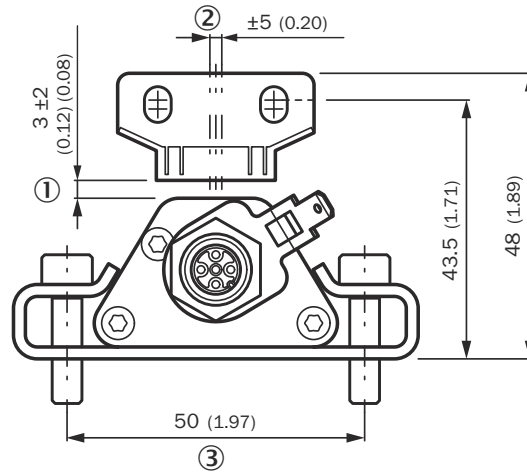
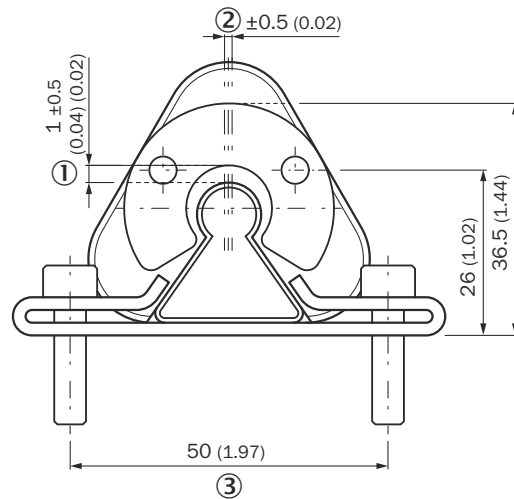
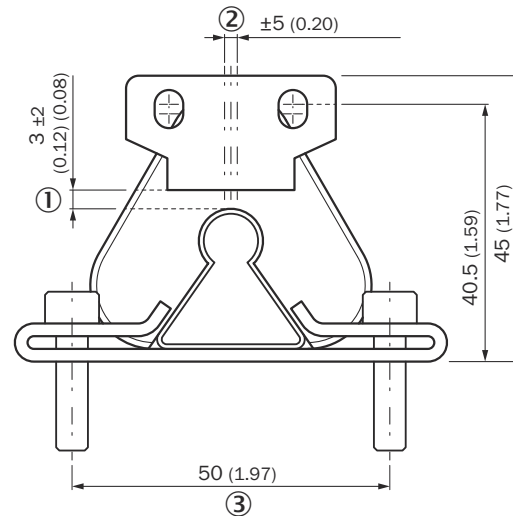

Figure 19: Dimensions and distances for MAG-B-180-xx position magnet on DAX® Low Profile
Figure 20: Dimensions and distances for MAG-B-180-xx position magnet on DAX® Slider
Figure 21: Dimensions and distances for MAG-B-180-xx position magnet on DAX® Slider
- ▶ The following values must be observed for the nominal distance ① between the position magnets and linear encoder and for the center offset ② (see figure 19, page 24, see figure 20, page 24 and see figure 21, page 25):